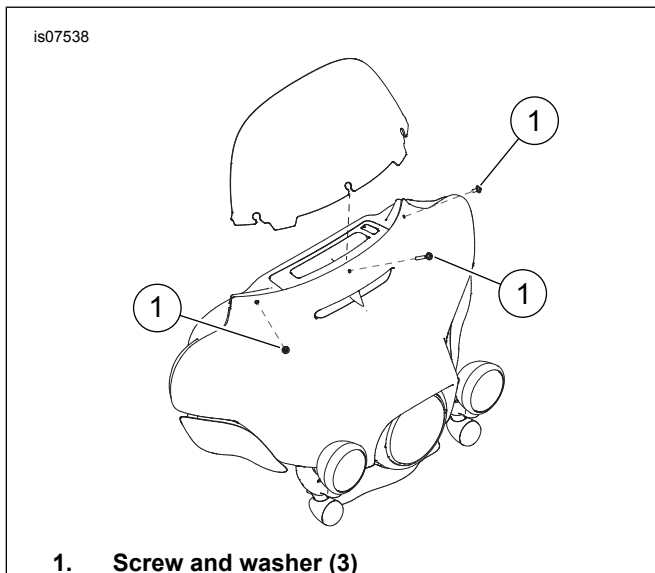

Figure 1. Windshield/Wind Deflector Installation
1. See Figure 1. Loosen but do not remove three screws (1) (with flat washers) securing windshield/wind deflector to fairing.
1. See Figure 1. Place the windshield/wind deflector into position between inner and outer fairings engaging the slotted holes in the windshield/wind deflector with the threaded bosses on the inner fairing.
2. Tighten three screws (1).